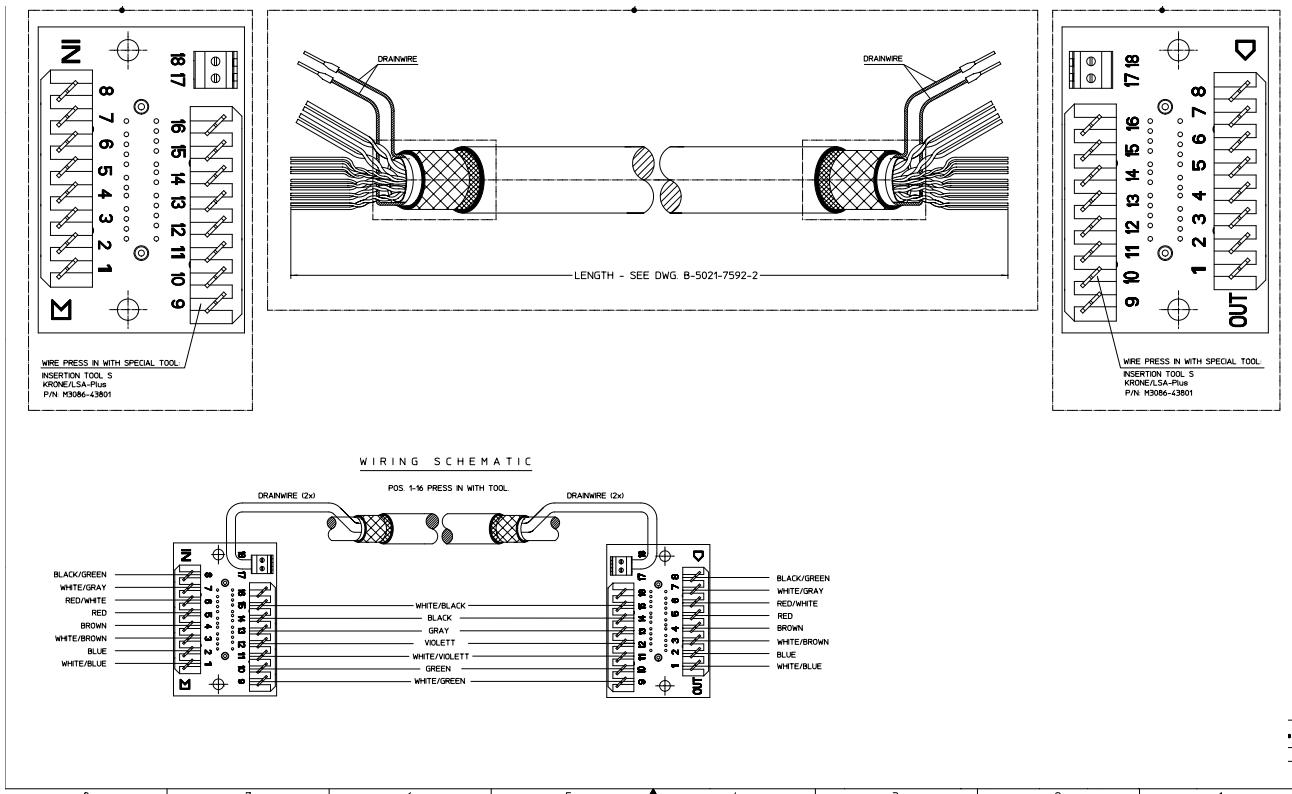

Figure 18 Wiring Schematic
- 3 Use the Insertion Tool (M3086-43801) to position each wire on the PCB according the wiring schematic in Figure 18, where each color corresponds to a number.
- 4 Use a small screwdriver to connect the two drain wires to the PCB, see the wiring schematic in Figure 18.